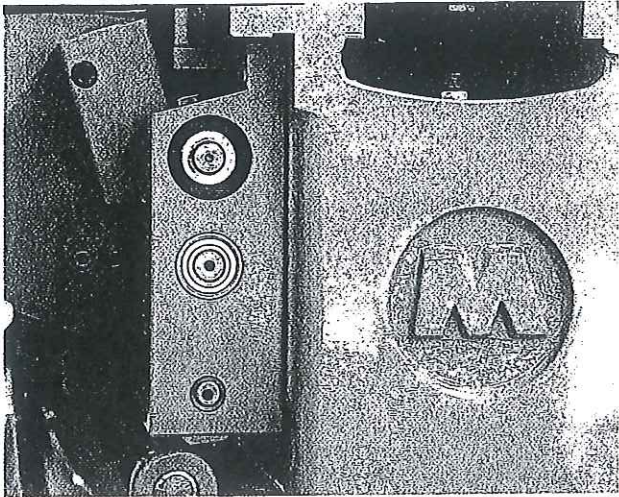

Figure 9
- d. Re-tighten lock nut "A" and replace plastic cover (**Figure 9**)